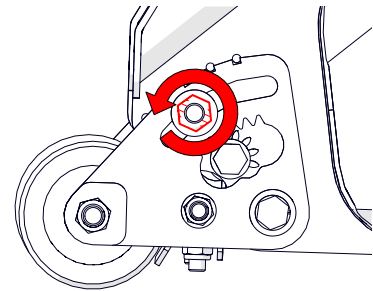

Fig. 9D - Loosen the top clamp nut of the roller quadrant
6. Loosen the top clamp nut of the roller quadrant [19 mm spanner] (Fig. 9D). Repeat on the opposite side quadrant.